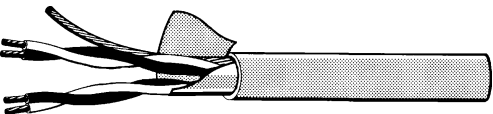

Figure 3.
- If **SHIELDED CABLE** is used, **DO NOT** use the shield as a **negative connection** & do not allow the shield to make contact with Negative, Ground, or any other wiring or metalwork within the system. Shields should only be terminated to a Protective Earth at **ONE END** of the cable. ❶ See “System Earthing” below. If no suitable earth point is available at a module location, the shield can be looped back to the shield of the previous length of cable. ❷
- **LAN POWER CABLING.** Separate heavy duty Figure 8 cable (24 / 0.20 recommended) should also be run for “POS” & “NEG” over longer distances if used for powering modules. e.g. LCD Terminals. *Figure 3.*